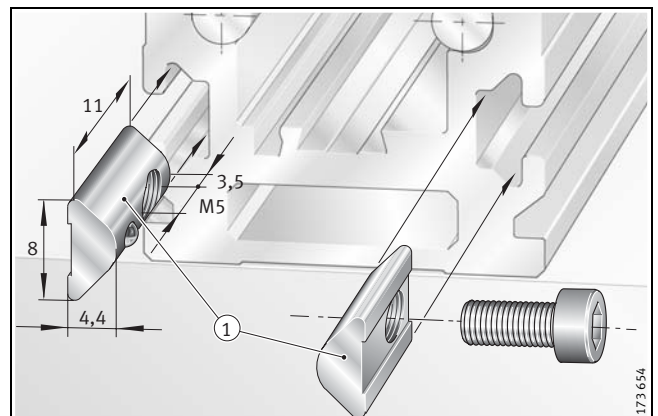

Figure 5 · Positionable T-nut
Positionable T-nuts are available to locate the support rails in modular constructions (Figure 5, ①).